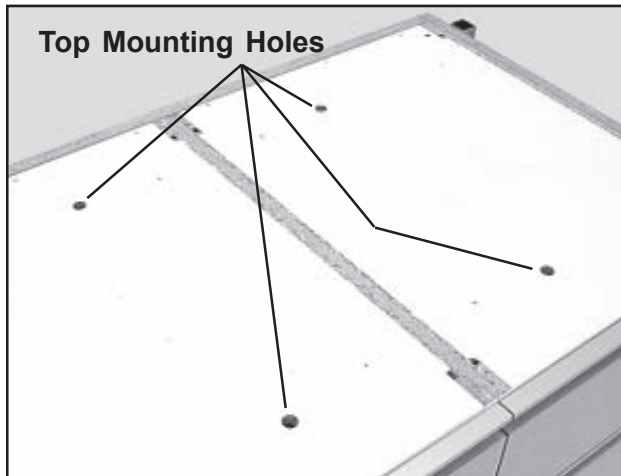

Figure 25. Upper Surface of Table with No Top Installed
5. Place the new exam top on the table with the four mounting screws into the four holes (Figure 25) on the upper surface of the table.